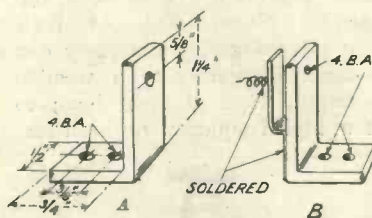

Fig. 7.—Dimensions for uprights.
The uprights are made from angle brass. They have both the same overall dimensions. The only difference between them is that that intended to take the spindle supporting the crystal cup (A, Fig. 7) has a 2B.A. clearance hole drilled $\frac{3}{8}$ in. from its top edge, whilst the other (B) has a 4B.A. tapped hole whose centre is $\frac{3}{16}$ in. from the top. The cat-whisker is made of thin brass wire coiled into a spiral by being wound tightly round a knitting-needle. It is fastened by means of solder to its bracket, which is made from a piece of springy sheet brass $\frac{1}{8}$ in. wide bent as shown in the drawing. The bracket is soldered to the face of the upright.